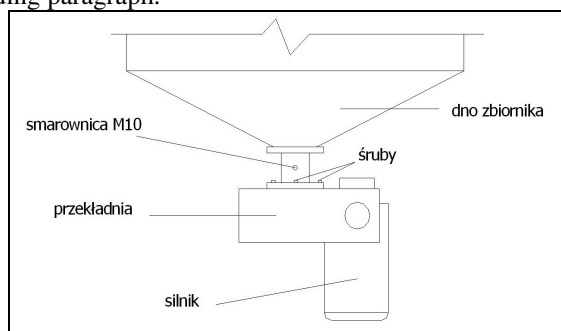

Fig. 7 Installation of the system driving tank stirrer
4. Connect the gear unit with the driver motor to the bottom of the fuel tank (fig.7). To install this element follow the same steps as in the preceding paragraph.